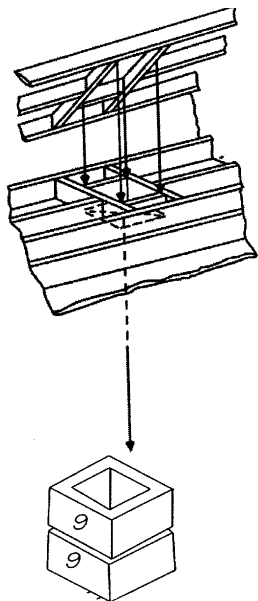

Figure 3. Roof Penetration
A. Measure to all sides of the nail and mark the required opening, then cut a hole in the roof. Remember that the hole is measured on the horizontal, then projected to the roof. The hole may then be larger, depending on the pitch of the roof. See Figure 3.